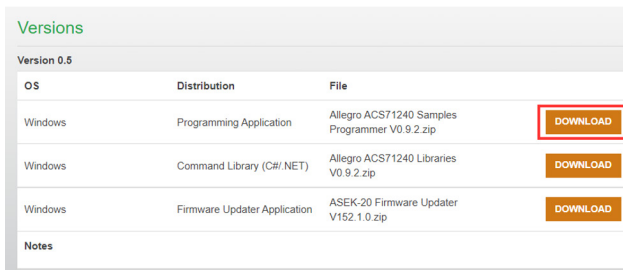

Figure 6: “Download” to open the Programming Application
- Click “Download” next to the first result to open the Programming Application ZIP file as highlighted in red in Figure 6.